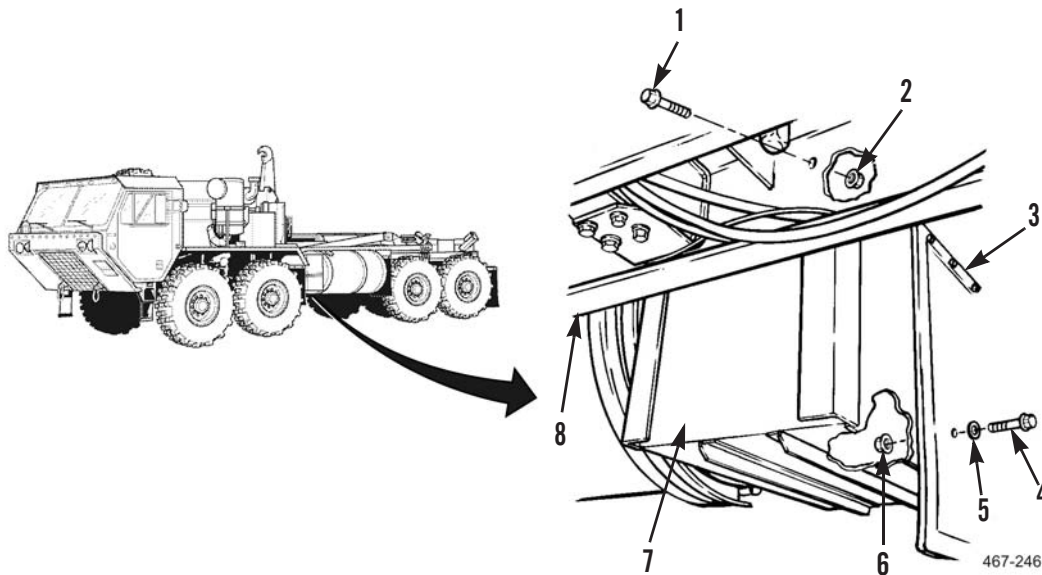

Figure 3. Stowage Box Removal.
1. Attach sling and lifting device to stowage box (Figure 3, Item 7).
2. Remove nut (Figure 3, Item 6), bolt (Figure 3, Item 4), and washer (Figure 3, Item 5) from mud flap (Figure 3, Item 3). Set aside for reinstallation.
3. Remove four locknuts (Figure 3, Item 2), bolts (Figure 3, Item 1) from stowage box (Figure 3, Item 7) and frame (Figure 3, Item 8). Discard locknuts.
4. Use lifting device to remove stowage box (Figure 3, Item 7) from vehicle and lower onto flat surface. Set aside for reinstallation.